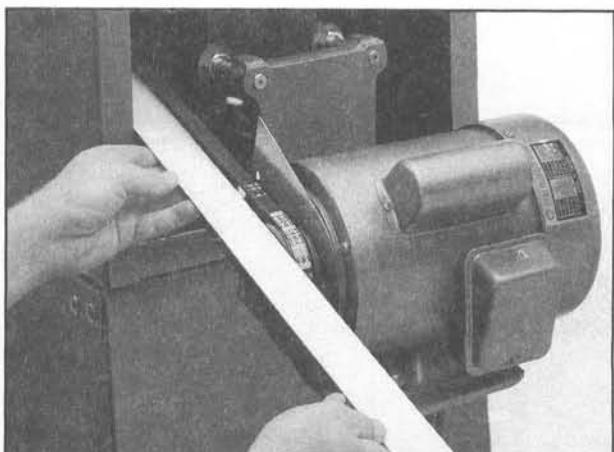

Figure 15.
7. Place a straightedge across the arbor pulley and the motor pulley. The straightedge should run across both pulleys evenly. Adjust the motor on its mount until pulleys are aligned, then tighten all the mounting bolts. **Figure 15.**